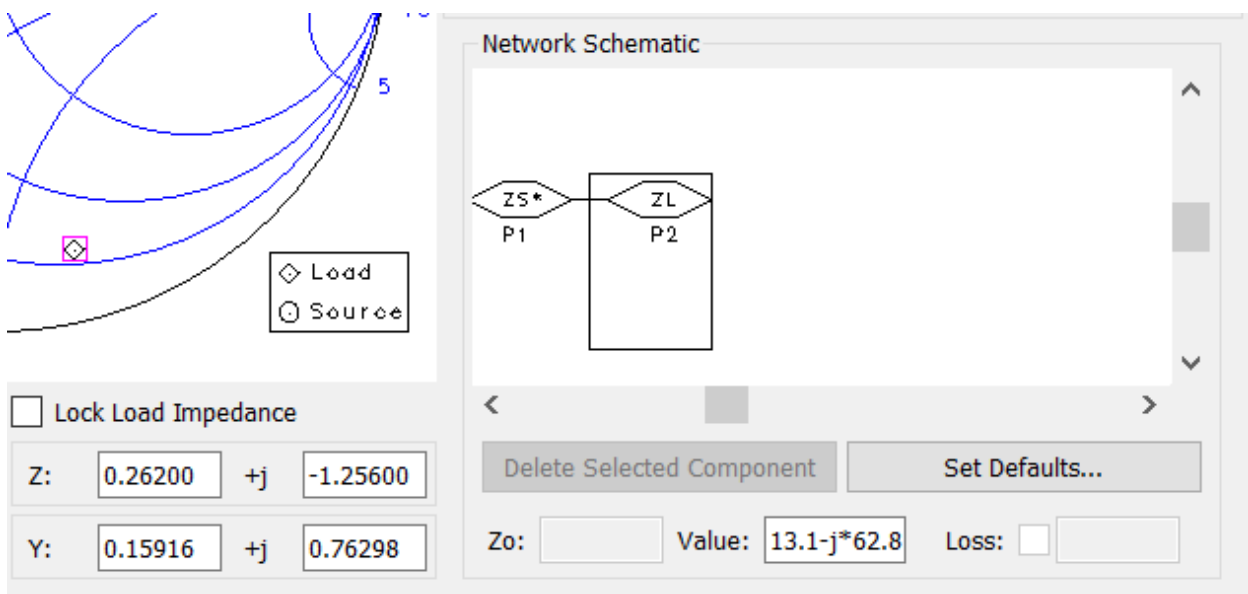

Figure 21. Changing the ZL value
6. In the lower right corner, select the **ZL** component in the Network Schematic section. Under Value, enter the approximate impedance looking into the amplifier from the load, which was found during the last section. For this lab, the value is **13.1-j*62.8**. Press tab to accept the value. This is shown in Figure 21. Notice that the load symbol (diamond) on the Smith chart has relocated to the lower right of the Smith Chart.